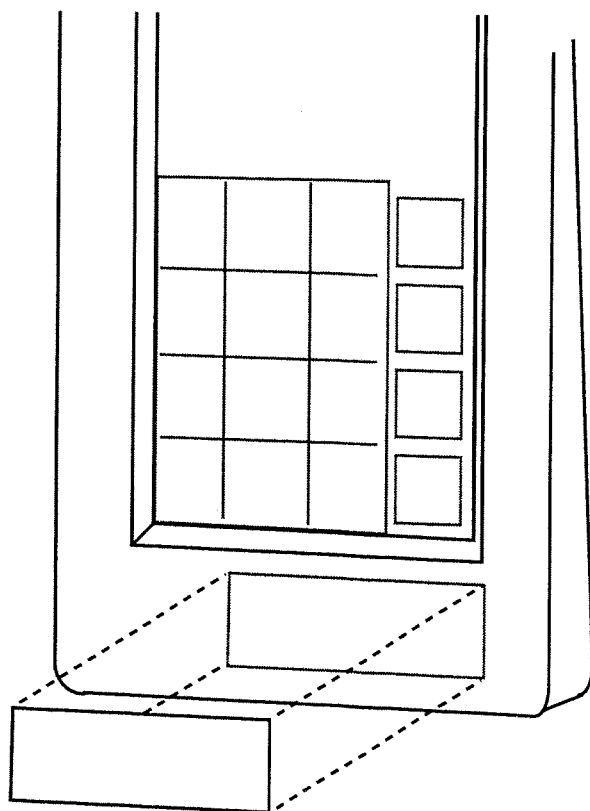

Figure 7.
6. Select the appropriate label from the label set and attach it to the remote interface assembly as shown in Figure 7.
7. Select the appropriate label from the label set and attach it to the remote interface assembly as shown in earlier Figure 7.